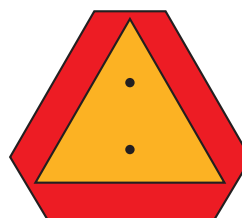

Figure 3-12: SMV Sign
- Transport during daylight hours whenever possible. Always use flashing warning lights, except where such use is prohibited by law. Make sure lights, reflectors and SMV emblem are clearly visible and operating. Remove any obstructions such as dirt, mud, stalks or residue that restricts view before transporting. **See Figure 3-12.**